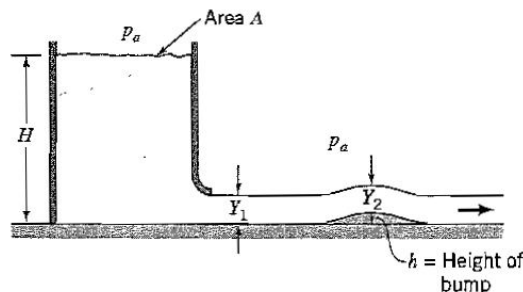

Figure P10.57
10.57 Water issues from a large reservoir in the form of a jet of width W and depth Y_1 , as shown in Figure P10.57. The cross-sectional area of the tank A is much larger than the jet area WY_1 , and the depth H is much larger than Y_1 .